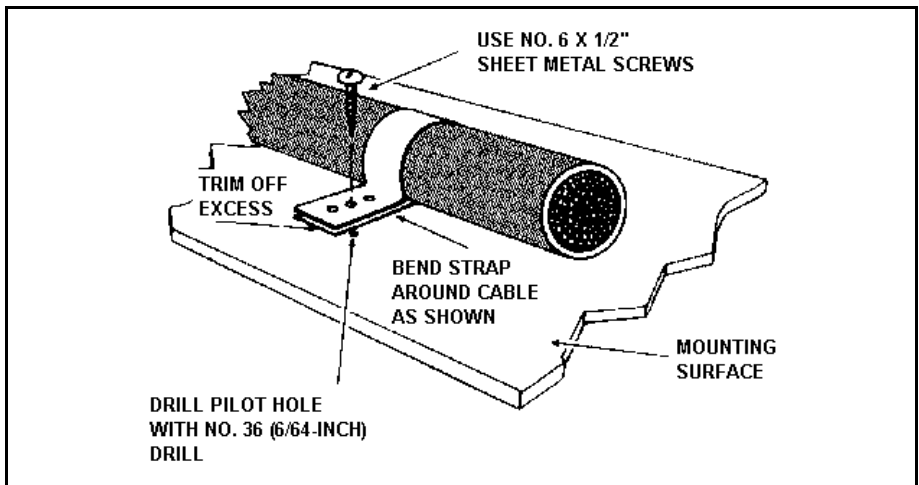

Figure 11 - Installing Cable Straps
4. Use the 3-inch cable straps and No. 6 self-tapping screw provided in the Mounting Hardware Kit to secure the cables neatly in place (See Figure 11).